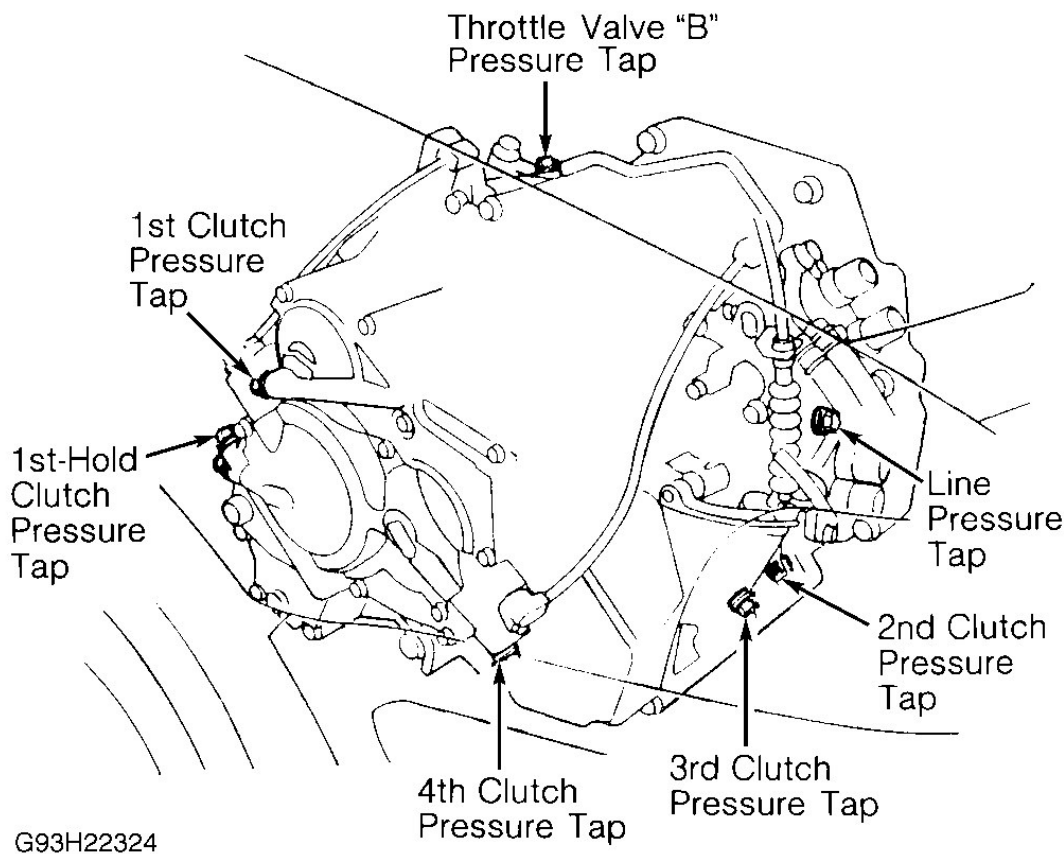

Fig. 7: Identifying Transaxle Pressure Taps
1. With engine off, remove pressure tap plug from line pressure tap on transaxle. See **Fig. 7** . Attach pressure gauge to line pressure tap using NEW aluminum washer. Tighten hose fitting to 13 ft. lbs. (18 N.m).
NOTE: Clutch pressure should be checked at each clutch pressure tap on transaxle. See **Fig. 7**.
1. With engine off, remove pressure tap plug from appropriate clutch pressure tap on transaxle. See **Fig. 7**. Attach pressure gauge to appropriate pressure tap using NEW aluminum washer. Tighten hose fitting to 13 ft. lbs. (18 N.m).
1. The low/high pressure is tested at 2nd, 3rd and 4th clutch pressure taps on transaxle. See **Fig. 7**. Disconnect Throttle Valve (T.V.) cable from transaxle T.V. lever.
1. Disconnect Throttle Valve (T.V.) cable from transaxle T.V. lever. With engine off, remove pressure tap plug from throttle valve "B" pressure tap. See **Fig. 7**.